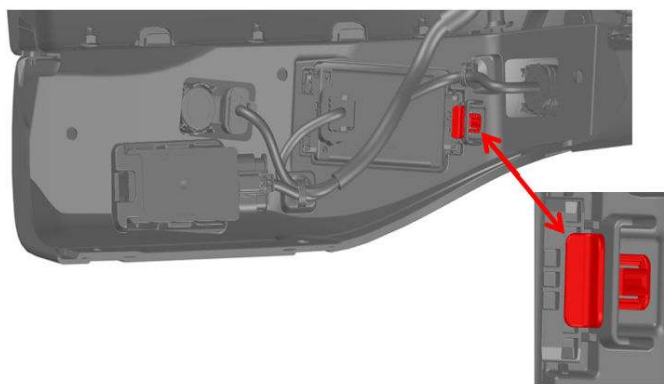

Fig. 10
15. Install the MRR bracket shoe Fig. 10.